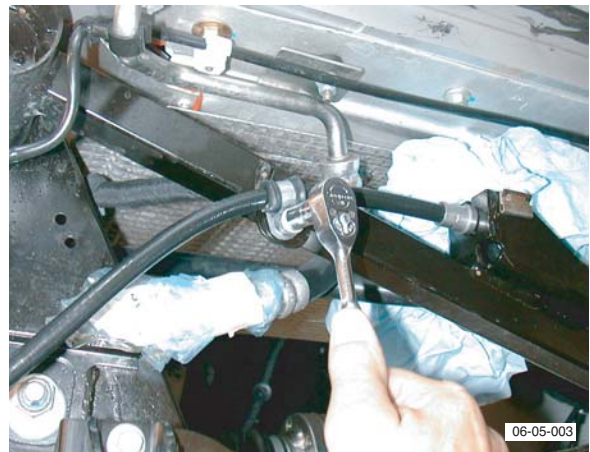

Fig. 1
- Remove screws (x4) from cable clips and unclip grommet from body clip (see Fig. 1).